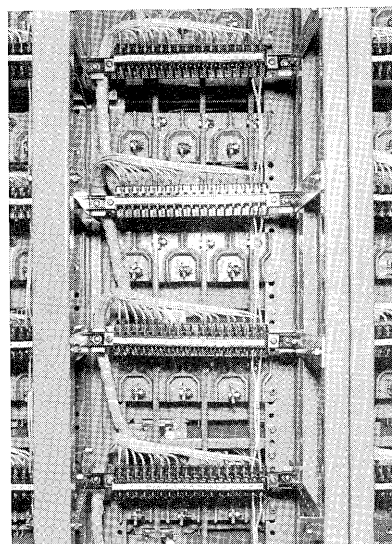

Fig. 3 Back view
3) External junction chamber and vertical bus bars (Fig. 3 in a back view.)